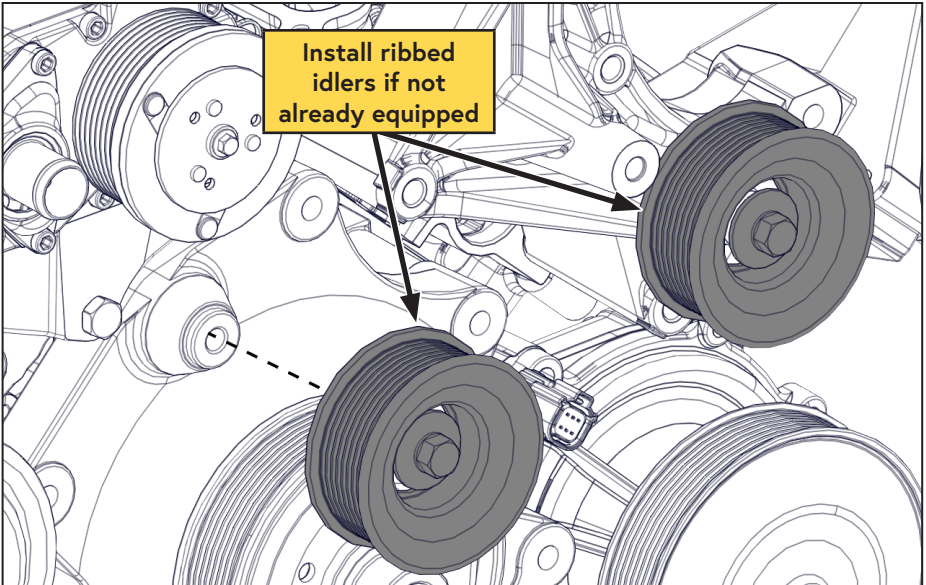

Figure 15 — Reinstall the idler
***If the vehicle was equipped with smooth idlers in the locations shown, replace them with the VMAC supplied ribbed idlers (Figure 15).***
- Reinstall the idler removed earlier (Figure 15).